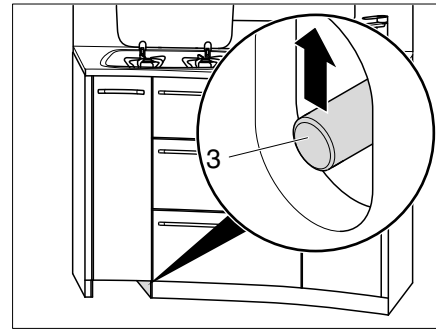

Fig. 132 Unlocking kitchen drawers
- Slide the push rod (Fig. 132,3) upwards.